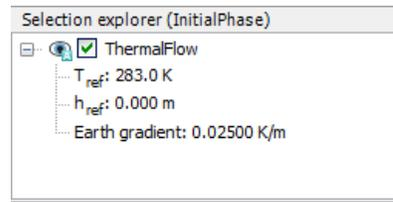
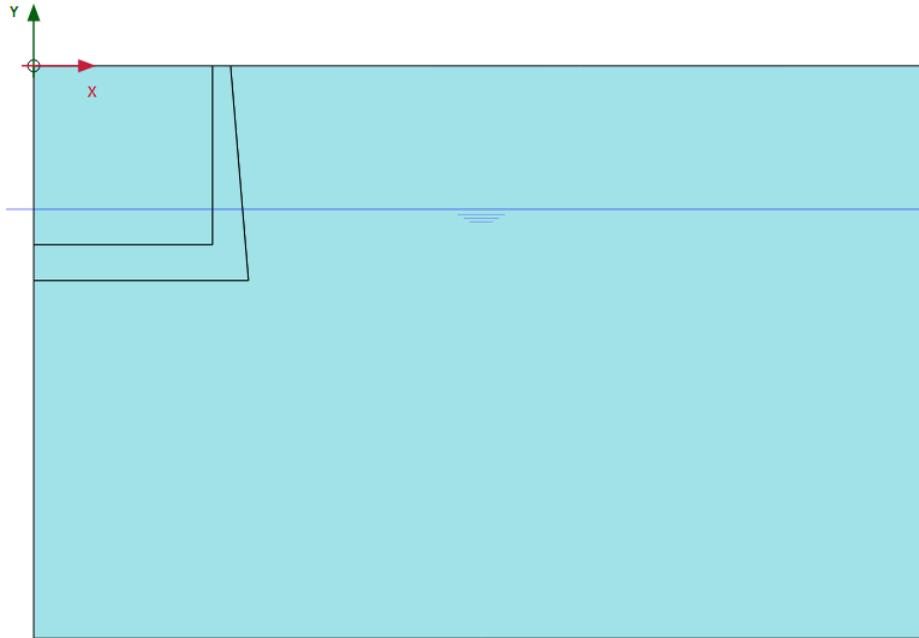

Figure 231: Thermal flow in the Selection explorer
Figure 232: Initial phase
5. In the **Staged construction** activate the **ThermalFlow** under the **Model conditions** subtree and set the value for T_{ref} to 283 K. The default values for h_{ref} and **Earth gradient** are valid. The Thermal flow parameters are shown in Figure 231 (on page 263) and the model for initial phase is shown in Figure 232 (on page 263).